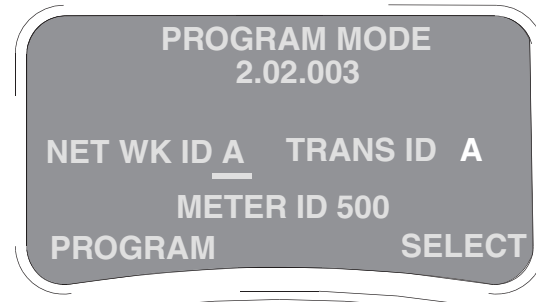

FIG. 1
3. To program a meter, simultaneously hold down both the left keypad button (A) and right keypad button (B) until both the ACTIVATE words on the display screen change to PROGRAM (appears on the left) and SELECT (appears on the right). Release buttons.
4. The screen indicates a Network and Transceiver ID. See FIG. 1.